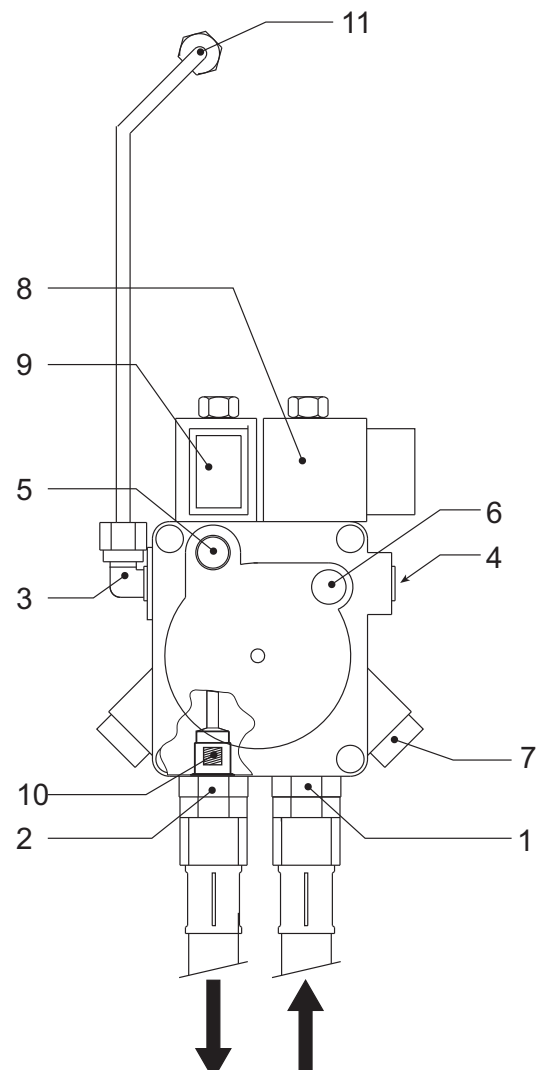

fig 4
The burner leaves the factory with the internal pump bypass closed, that is, the burner is fitted for two-pipe connection. Remove the caps and connect the two flexible pipes to the pump inlet (1) and return (2), as shown in Figure 4, making sure the flexible pipes are not twisted and that they are positioned so that they will not be stepped on or come into contact with the hot parts of the boiler.